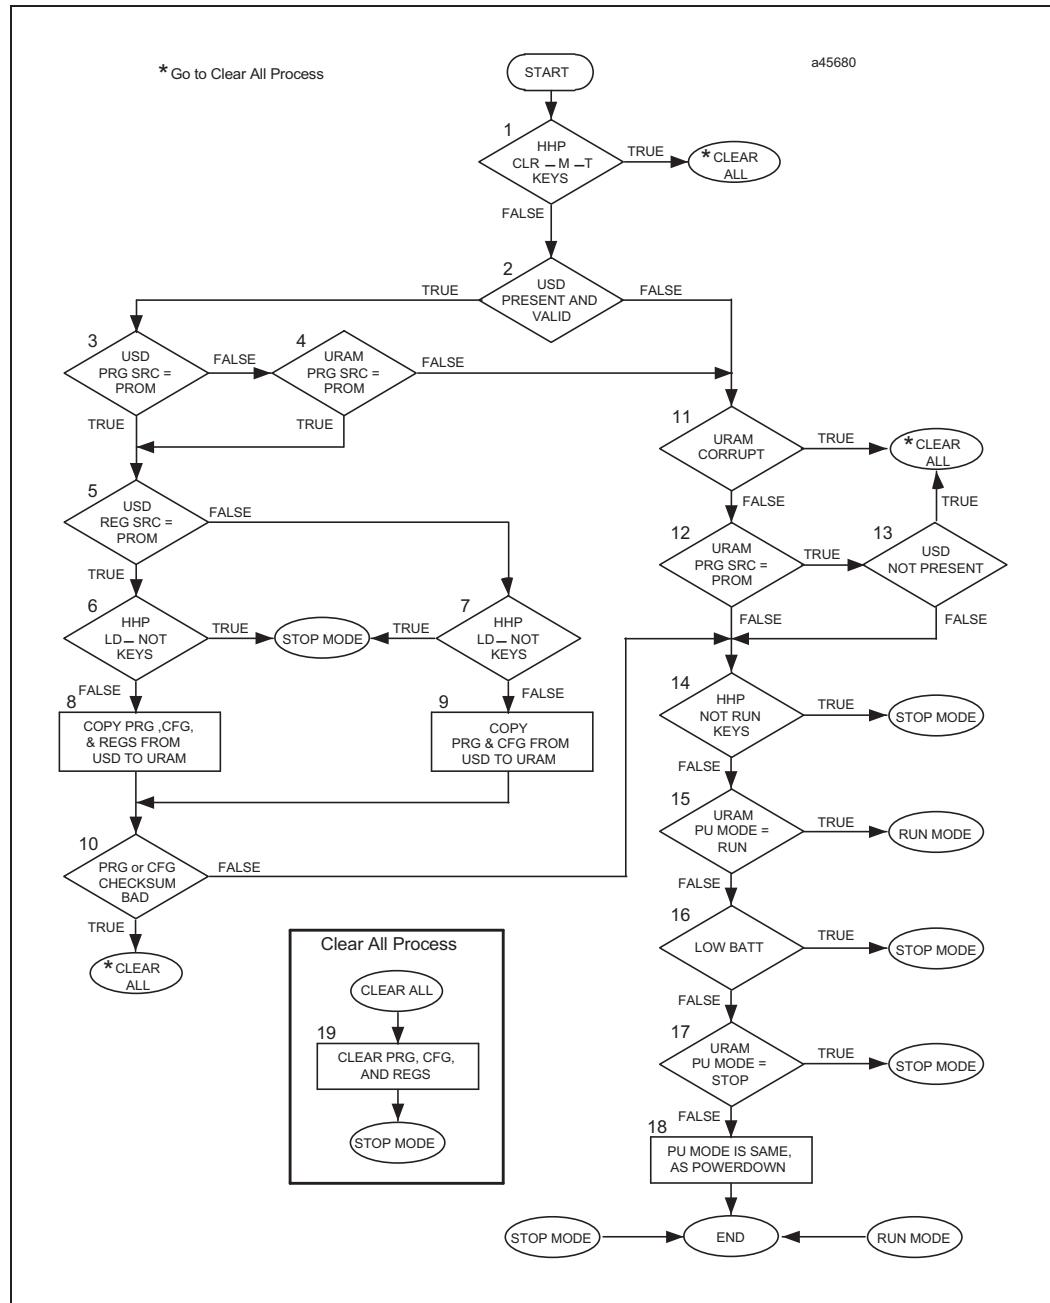

Figure 2-5. Power-Up Sequence
7. In the final step of the execution, the mode of the first sweep is determined based on CPU configuration. Figure 2-5 on the next page shows the decision sequence for the CPU when it decides whether to copy from PROM or to power-up in **STOP** or **RUN** mode.